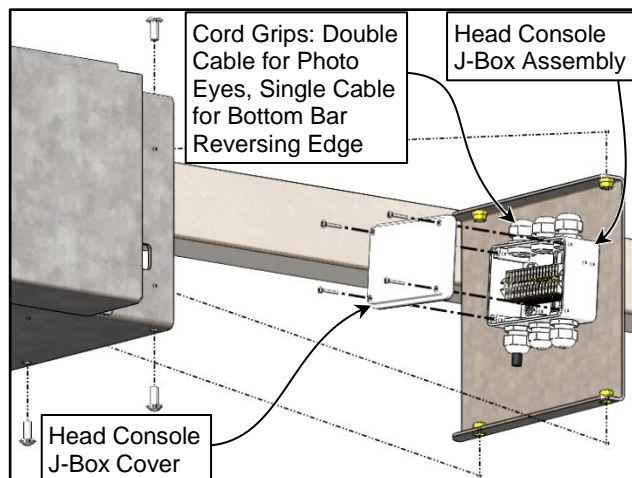

Figure 21
4. Remove the cover from the door head junction box located above the drive motor assembly. (See Figure 21)